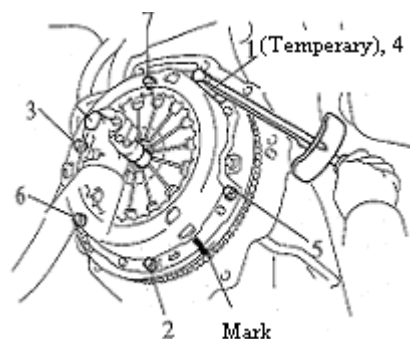

Figure 137
14. Install clutch cover. See (Figure 137)